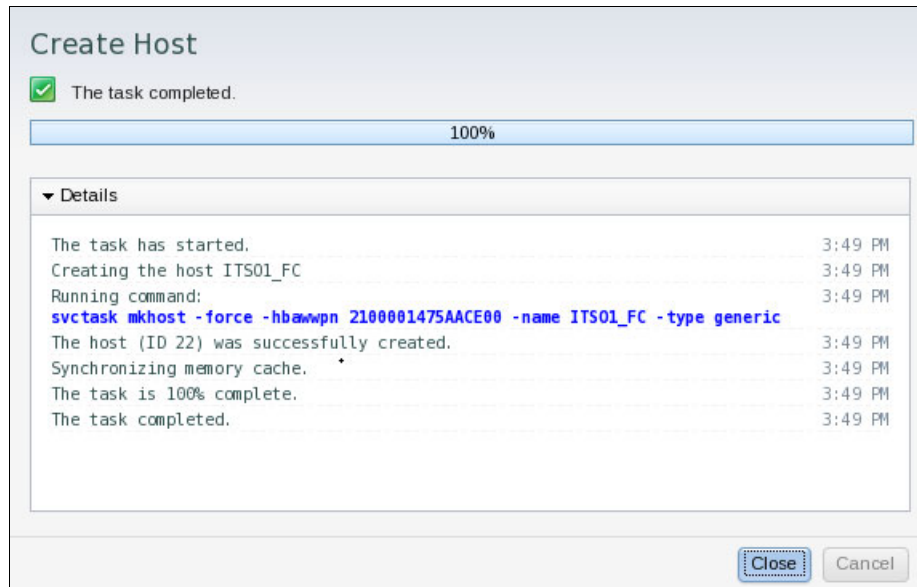

Figure 2-37 Create host task output
- After the host is created, click **Close**, as shown in Figure 2-37.